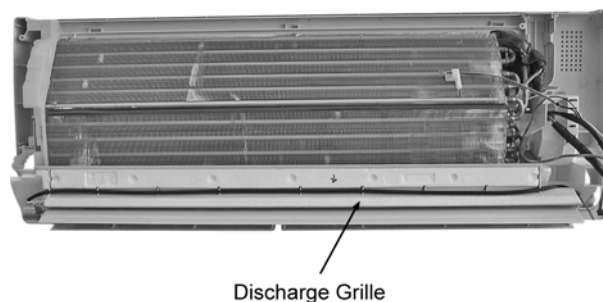

Fig. 10
16. Pull out the Drain Hose (behind the Discharge Grille) from outlet to remove the Discharge Grille. (Fig. 10)